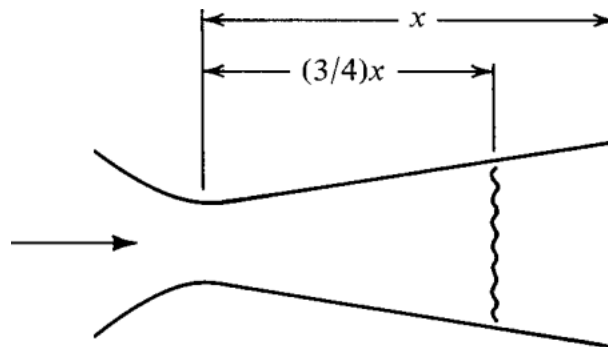

Figure P6.11
- 6.11** The diverging section of a supersonic nozzle is formed from the frustrum of a cone. When operating at its third critical point with nitrogen, the exit Mach number is 2.6. Compute the operating pressure ratio that will locate a normal shock as shown in Figure P6.11.